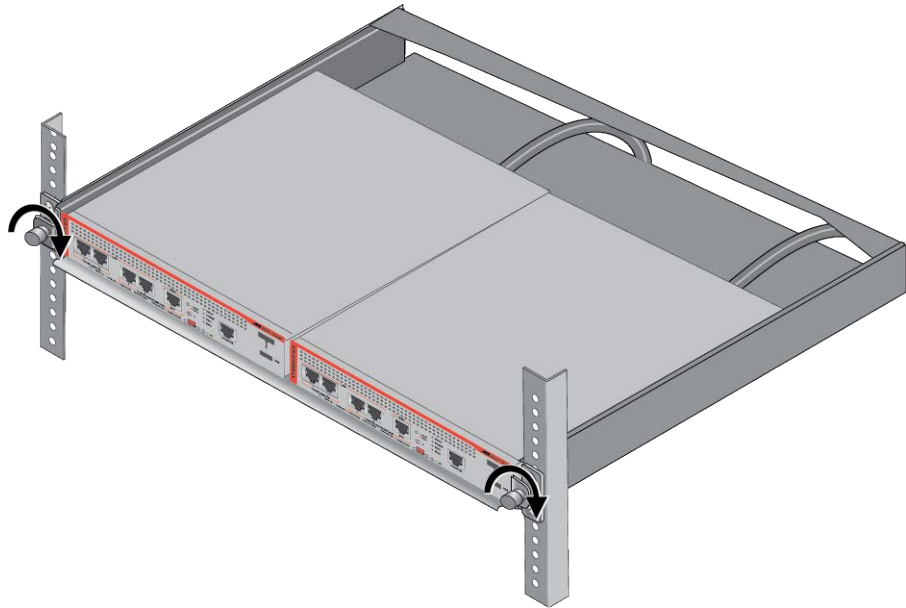

Figure 43. Tightening the Two Thumbscrews on the RKMT-J15 Equipment Rack Tray
11. Tighten the two thumbscrews to secure the tray to the bracket. Refer to Figure 43.